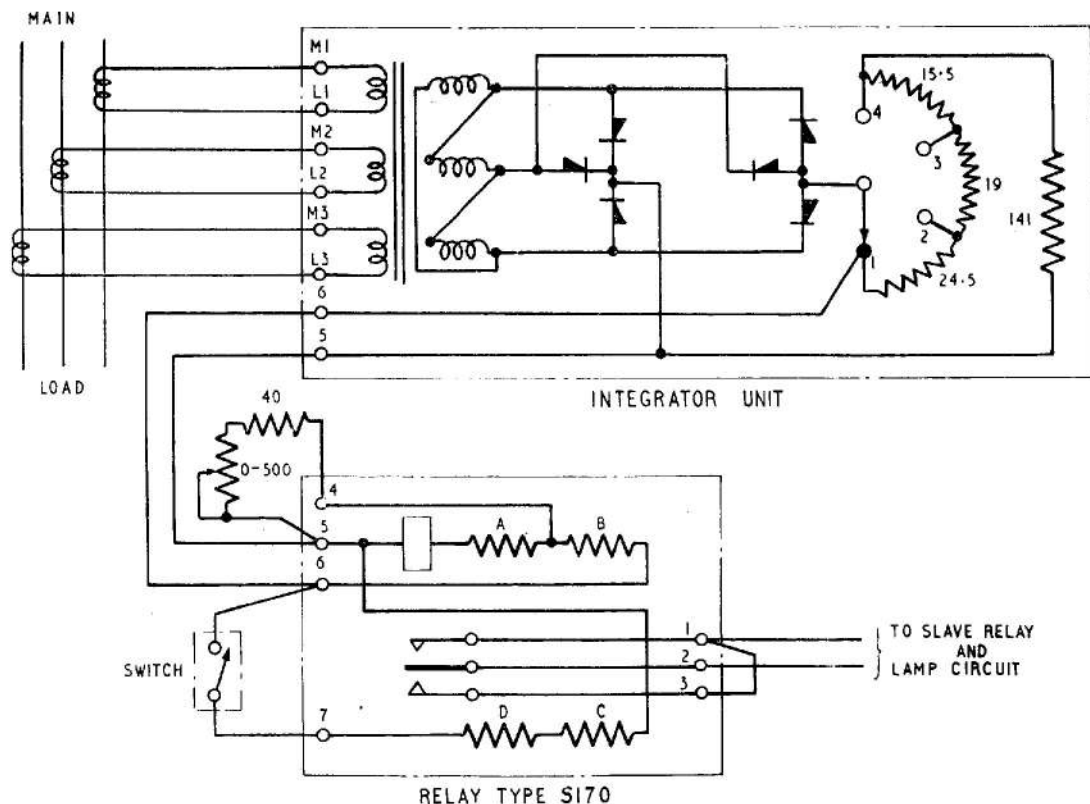

Fig. 5. Circuit diagram of system
7. The relay incorporates four resistances, A, B, C and D (fig. 5). Resistances A and B are connected in series with the relay coil. Resistances C and D are brought out to terminals and can be shunted across the relay coil and resistances A and B by means of an external switch or link. For final adjustment of the relay a resistance poten-
15. Connect the unit as shown in the circuit (*fig. 5*) and open the switch or link between terminals 6 and 7.